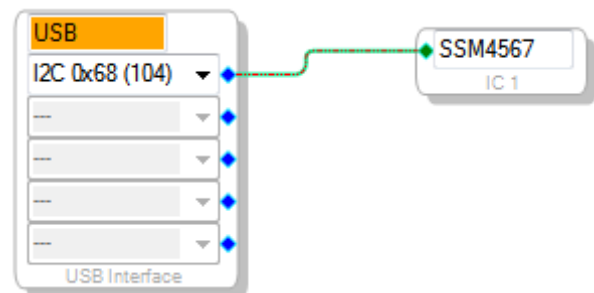

Figure 16. USBi to SSM4567 Communications Connection
- d. Drag **USBi** and SSM4567 from the tree toolbox to the **Hardware Configuration** window, and connect one blue pin of USBi to the green pin of the SSM4567 by clicking and dragging a wire as shown in Figure 16.